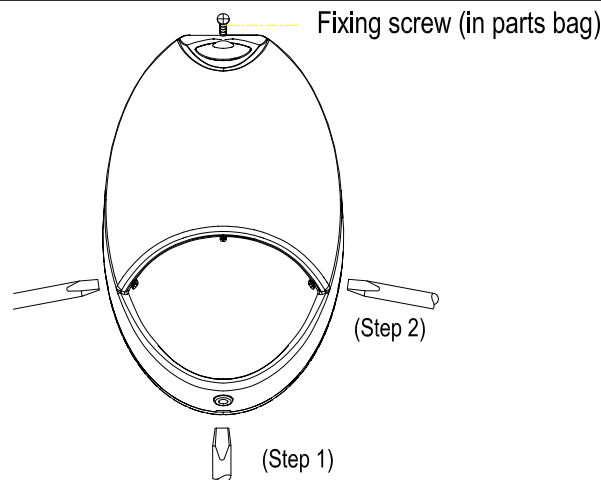

Figure 2 Wall Mount - Back Power Feed
4. For "Normally Off" standby battery backup operation only: connect the AC power as shown in Fig. 2 or 3 below and remove the jumper between terminals 1 and 2. The slide switch is defeated in this mode so it can be in either the Photo Sensor or Wall Switch positions.
- Figure 2: Installation using junction-box